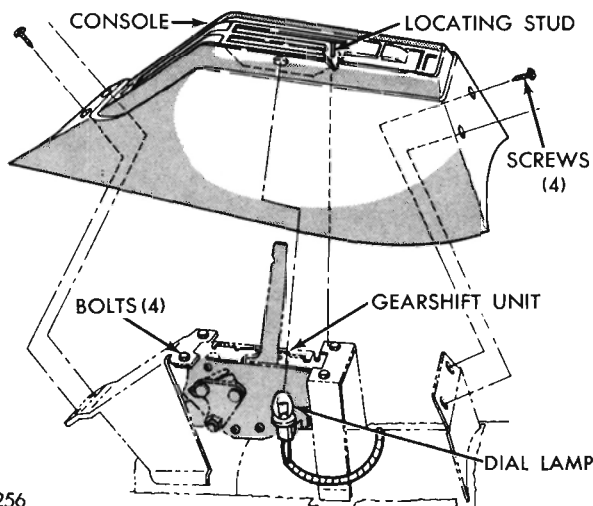

Fig. 23—Removing or Installing Console
(4) **AV-1, AV-2 Models:** Remove four screws securing the console to the floor mounting brackets (Fig. 23). Lift the console upward far enough to remove the dial lamp and socket, then lift off the console assembly. Remove the four gearshift unit to floor bracket retaining bolts.
(3) **AV-1, AV-2 Models:** Align the gearshift control unit in the mounting brackets, install and tighten the four retaining bolts (Fig. 23).